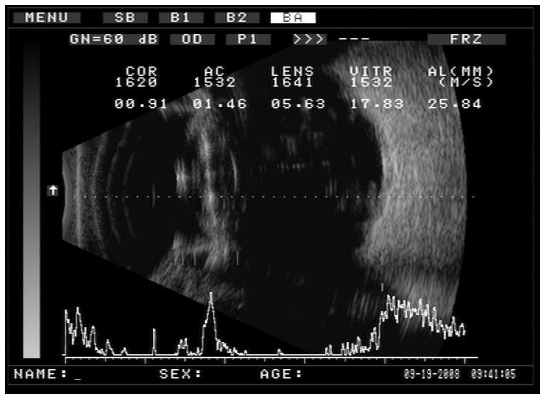

Fig 4-11
- (1) Press **B+A** key to enter B+A mode, see Fig 4-11.
- (2) Scan the eyeball, then freeze it once satisfied image is obtained;
- (3) Move trackball, press **>>>** area on screen with **L** key of the trackball, then enter Five-Point marking stage;
- (4) Move the cursor to A curve at the bottom of the screen, press **L** key of the trackball to mark the five points;